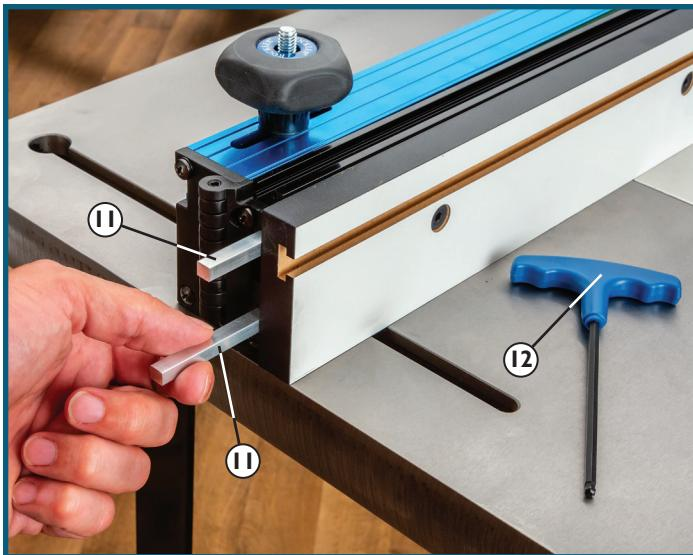

Fig. 3
2. Use the blue-handled Hex Key (12) to slightly loosen the flat-head hex screws securing the **outfeed** MDF Adjustable Fence Face (2) to the Fence Body (1). (Don't loosen them too far, however, or they could disengage from the weld nuts that snug them to the Fence Body.)
3. Slide both Jointer Bars (11) out from the slots behind the outfeed MDF Adjustable Fence Face (2) and turn them 90°. Then slide them back into the slots. This will push the outfeed MDF Adjustable Fence Face out by 1/32". **Fig. 3.**
4. Use the blue-handled Hex Key (12) to tighten the flat-head hex screws securing the **outfeed** MDF Adjustable Fence Face (2) to the Fence Body (1).
5. Set the fence position so that the plane of the outfeed MDF Adjustable Fence Face (2) is just slightly behind the front edge of the bit.
6. Using a straightedge held flush against the outfeed MDF Adjustable Fence Face (2) as a guide, loosen the Fence-Locking Knob on the top of the fence and turn the Micro-Adjust Knob on the back of the fence to align the outfeed side precisely with the cutting edge of the bit.
7. Remove the straightedge. If necessary, adjust the MDF Adjustable Fence Faces (2) to make the gap between the faces and the bit as small as possible without making contact with the bit. Adjust the Bit Safety Guard (3).